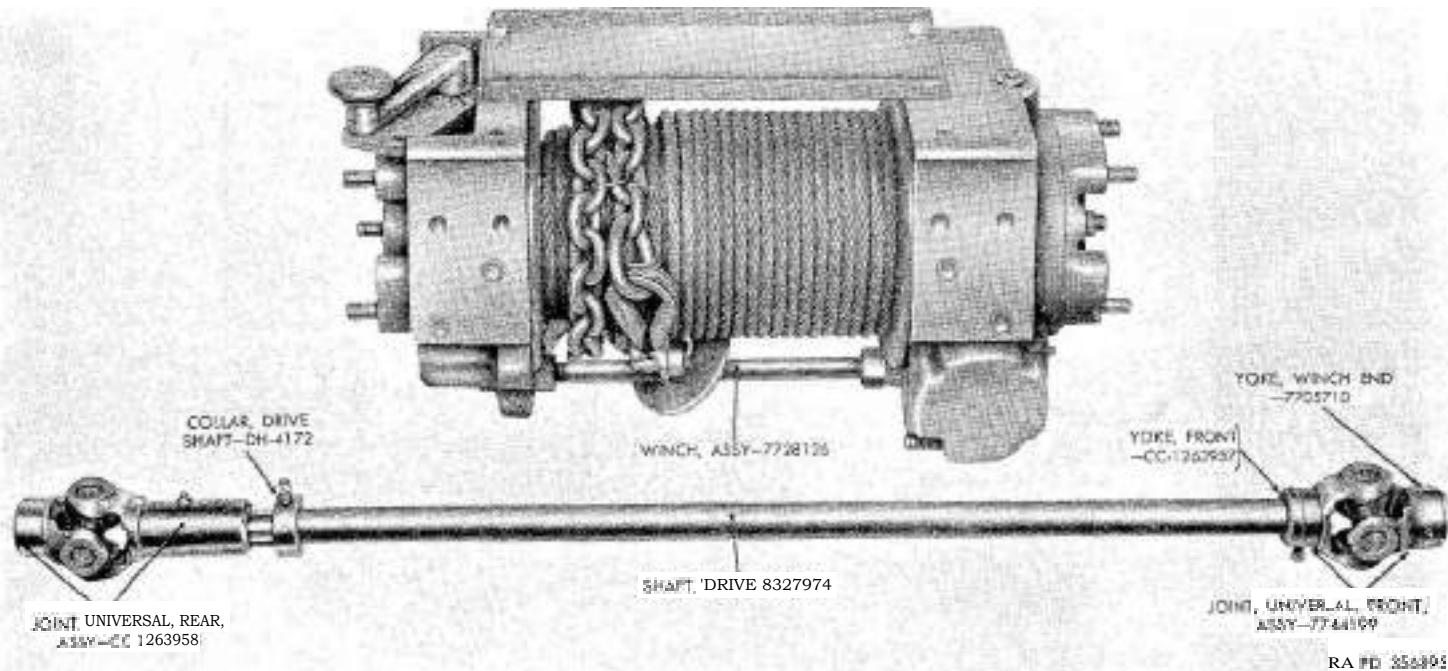

Figure 222. Winch and drive shaft assemblies.
a. *Winch Assembly* (fig. 222). The winch assembly is a worm drive assembly and is mounted at the front end of the frame side rails. It is operated by power transmitted through the transmission to the power-take-off and drive shaft.
b. *Drive Shaft Assembly* (fig. 222). The drive shaft assembly is a solid steel shaft and is equipped with two universal joints and a sliding yoke.
The winch and drive shaft assemblies (fig. 222) are divided into four subassemblies : clutch housing assembly, cable drum assembly,